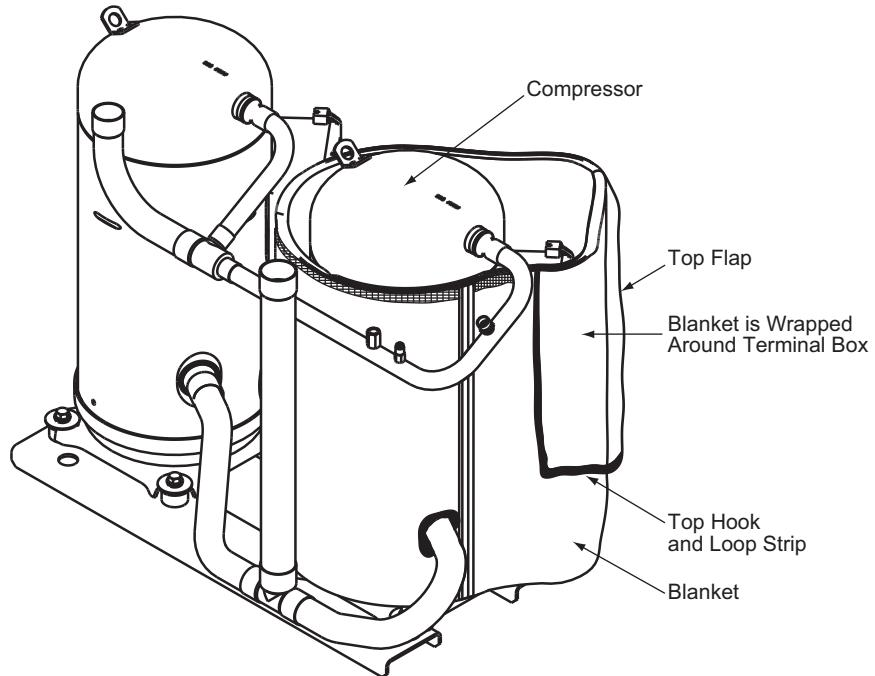

Fig. 4 — Wrap and Secure Sound Blanket Around Compressor and Terminal Box for Single Compressors
5. Wrap the blanket around the compressor terminal box. See Fig. 4.
6. Attach the hook and loop strips on the vertical seam to secure the blanket to the compressor. See Fig. 4.